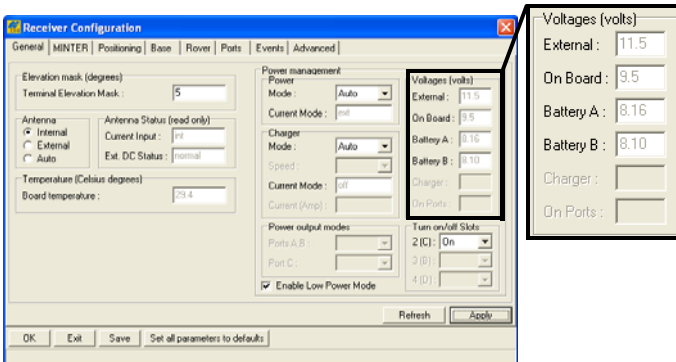

Figure 2-10. View Voltages Information
6. View the **Voltages** information (Figure 2-10 on page 2-13).